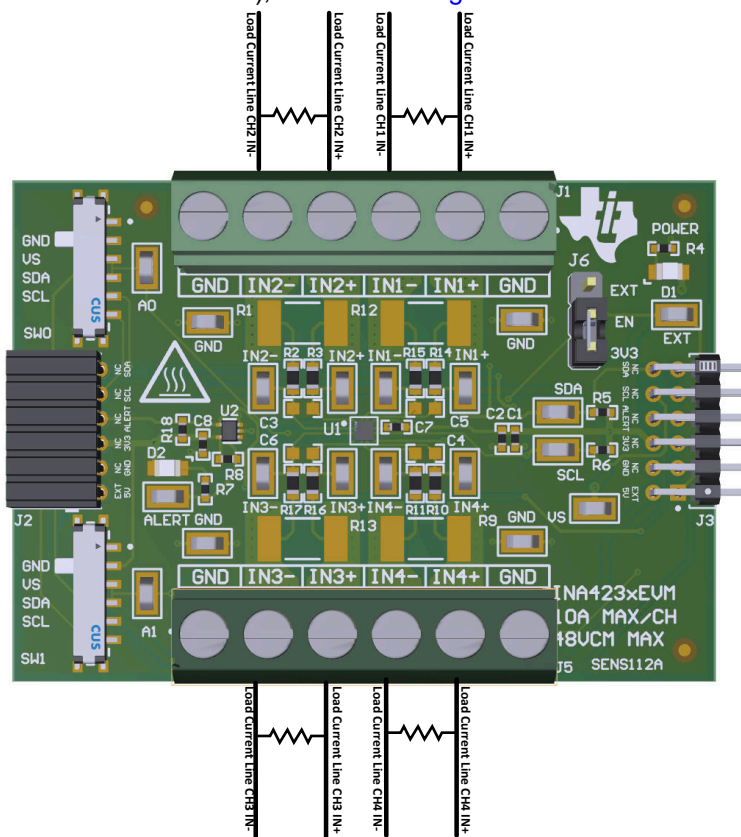

Figure 2-3. IN+ and IN- Wiring for More Than 10A
- Connect an external shunt across the IN+ and IN- terminals of J1 or J5 as shown in Figure 2-3.
- When measuring more than 10A, verify that the high current path does not go through the EVM (including the terminal blocks J1 or J5), as shown in Figure 2-3.